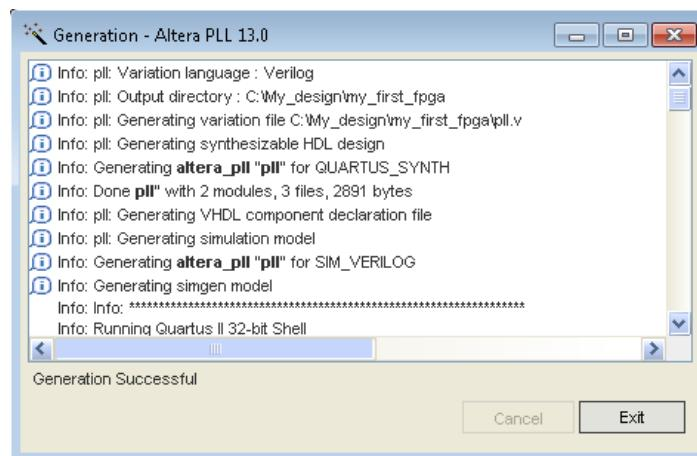

Figure 3-13 PLL Generation
8. Click Finish . It leads to **Figure 3-13**.Click Exit.